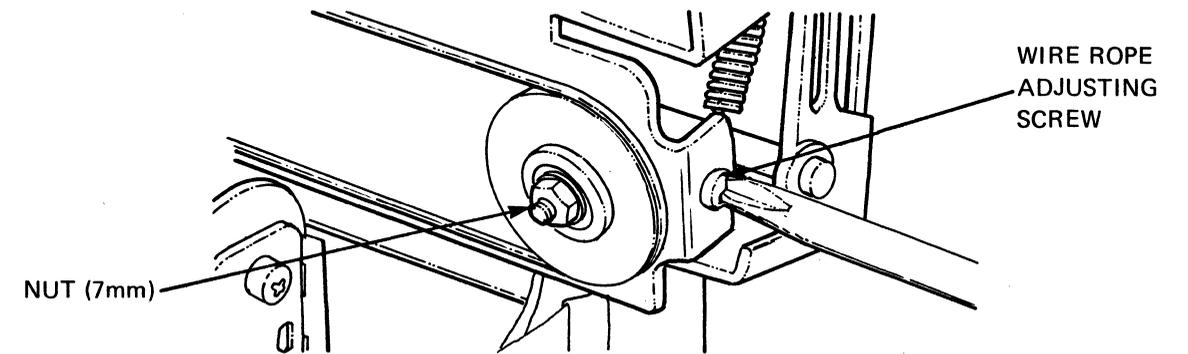

Figure 4-6 Wire Rope Adjusting Screw
- e. Turn the adjusting screw left to loosen the wire rope (see Figure 4-6).